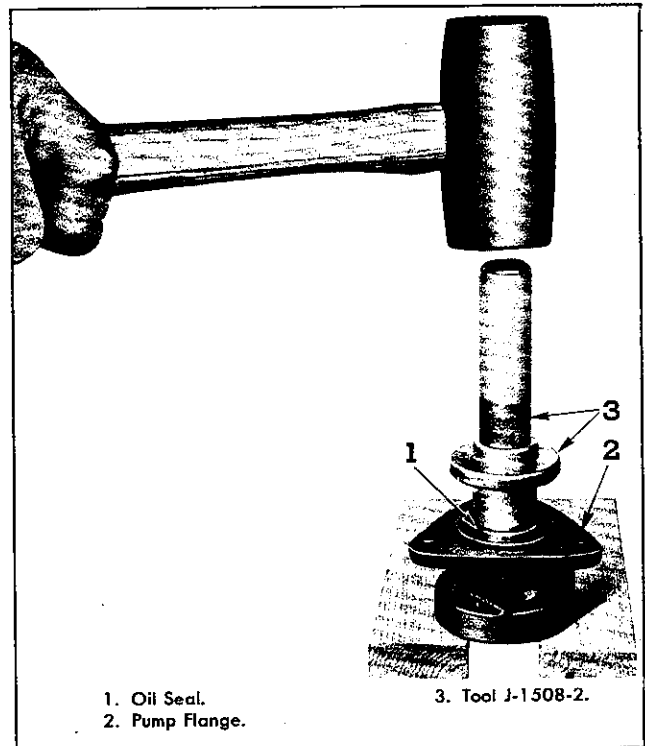

Fig. 40—Installing Outer Oil Seal in Fuel Pump Flange with Tool J-1508-2.
- Using Tool J-1508-2, install outer oil seal into pump flange, as illustrated in Fig. 40, in the following manner: